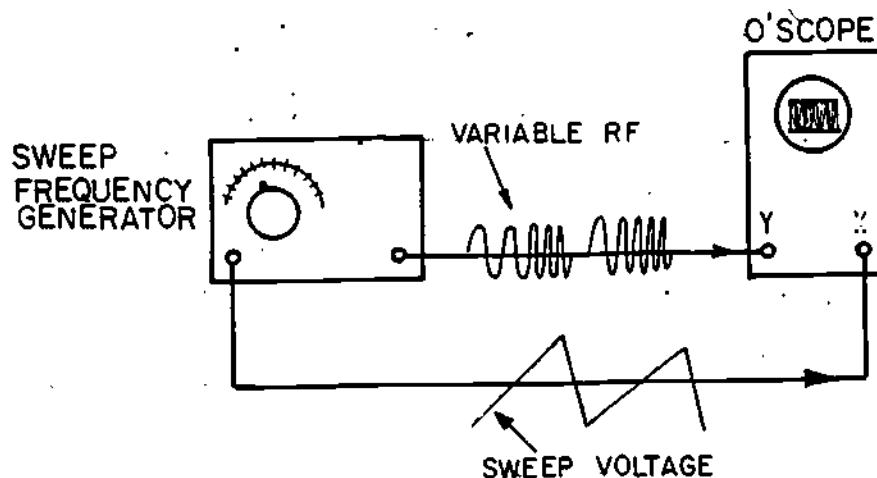
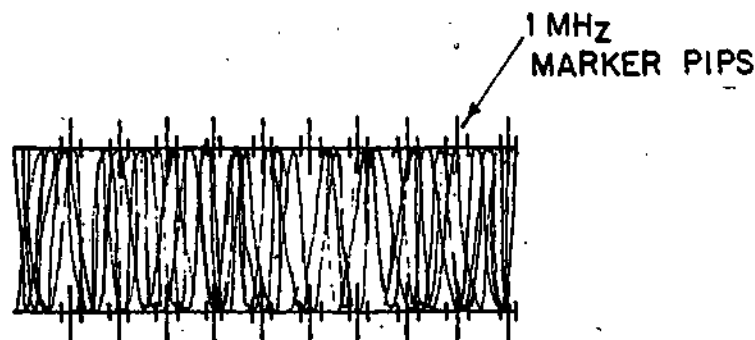

Figure 38
Figure 39
39. Figure 38 again shows the sweep frequency generator/oscilloscope set-up.
The sweep generator is designed so that the sawtooth horizontal sweep voltage also determines the variable radio frequency (RF) output signal. In Figure 38, the sweep generator's horizontal sweep (sawtooth wave) output is connected to the horizontal plates of the oscilloscope through the X terminal. Since the inputs to the oscilloscope's X and Y terminals are synchronized, the CRT display will be based on frequency, and not on time. A typical display is shown in Figure 39.
The pips on the frequency sweep in Figure 39 are the result of marker frequencies added to the variable radio frequency signal. Technicians use markers to set the desired limits on the variable frequency signal coming from the sweep generator. A wide range of marker frequencies is usually available to allow precise settings of the sweep generator variable frequency output about a center frequency. In the example in Figure 39, the sweep generator is sweeping frequencies from 0 to about 10 MHz. In other words, the sweep is 5 MHz each side of the center frequency of 5 MHz.